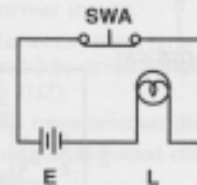

Fig. 2, Electrical Circuit Comparison
**Procedure - Refer to Figures 2, 3, 4 and 5 for the following instructions.**